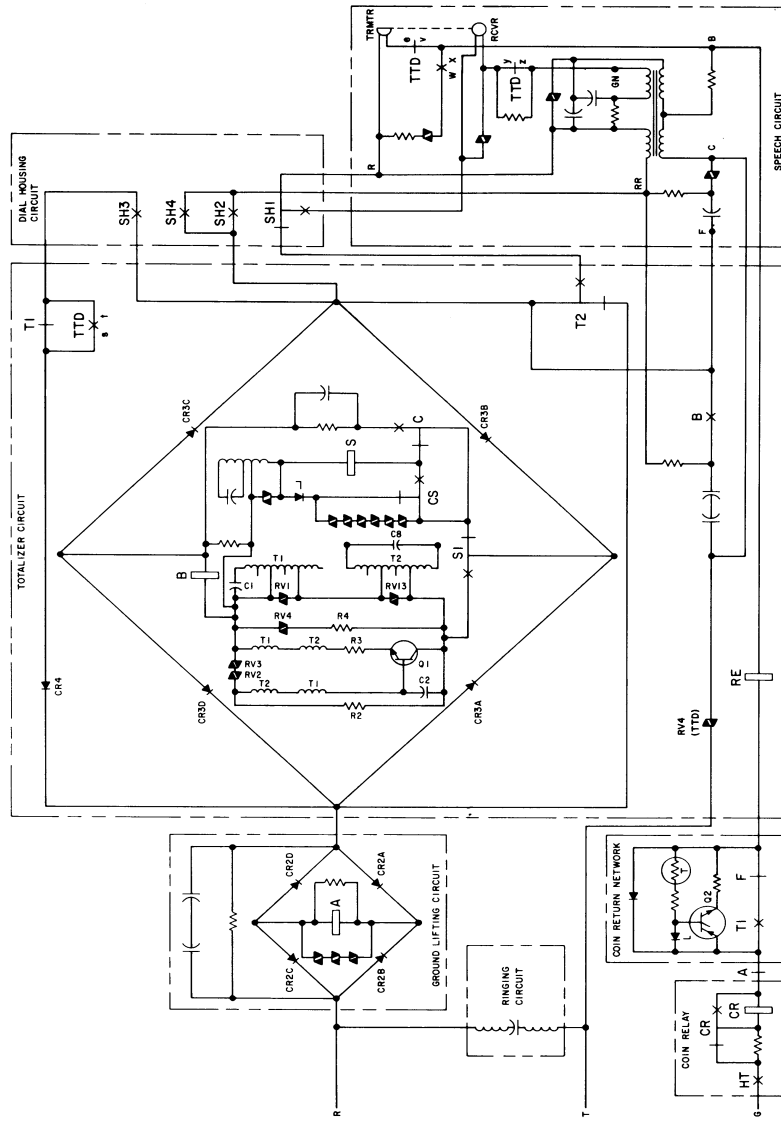

Fig. 10—1C/2C Coin Telephone Set—Schematic (DTF Made)
**Note:** This procedure and Fig. 10 refer to a 35-type TOUCH-TONE dial. A 70-type dial is similar.